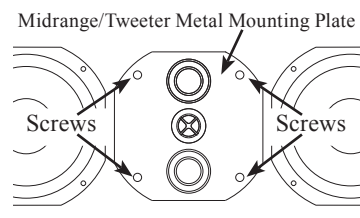

Figure 6B
- B. Temporarily remove the four screws securing the Midrange/Tweeter Metal Mounting Plate. Refer to figure 6B.